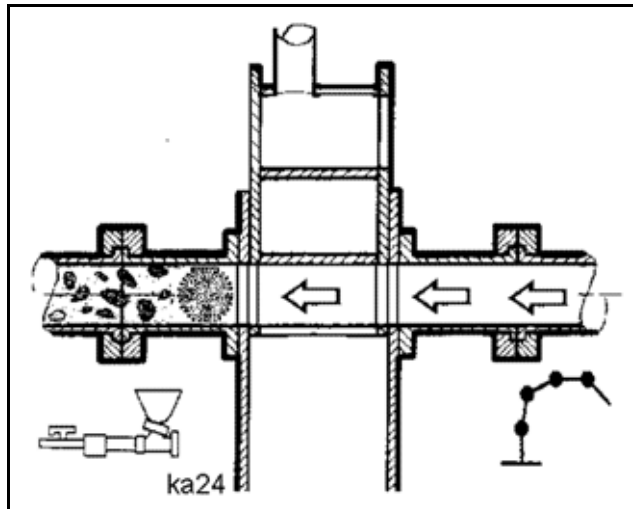

Fig. 515
- Extend the chamber once more (**Fig. 515**).